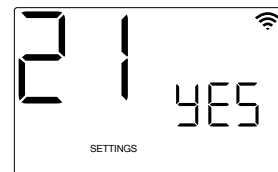
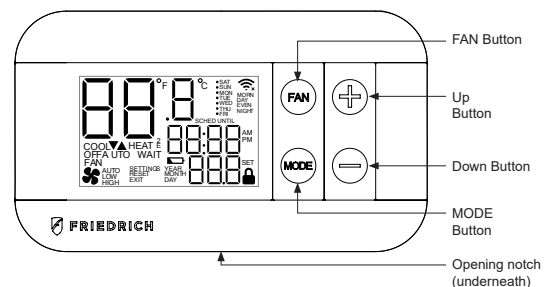

Figure 510
Figure 512 (Thermostat Transmitter)
5. When the transmitter display says 'YES' (See Figure 510), press the transmitter MODE button to start the scanning process. (See Figure 512)